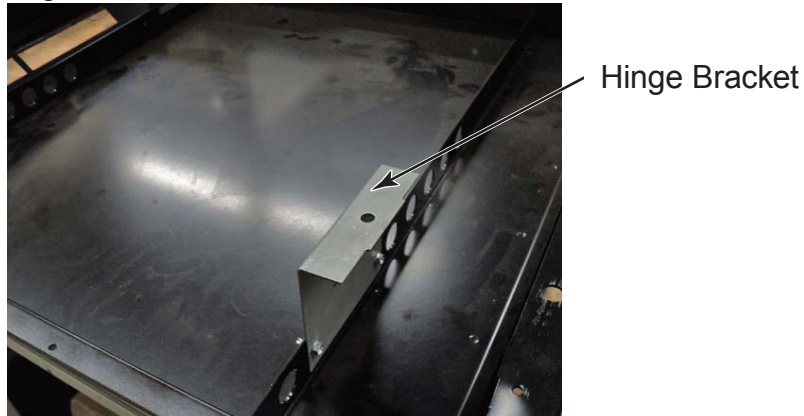

Figure 13
- b) Install kit supplied hinge bracket and screws and attach to new base - see figure 13.